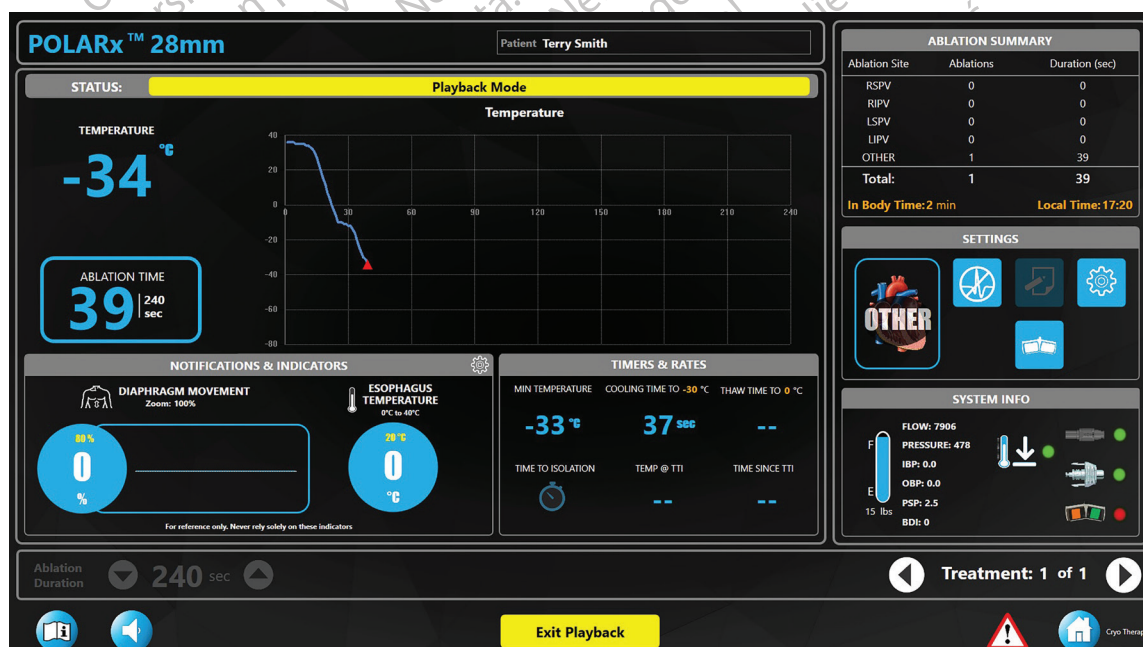
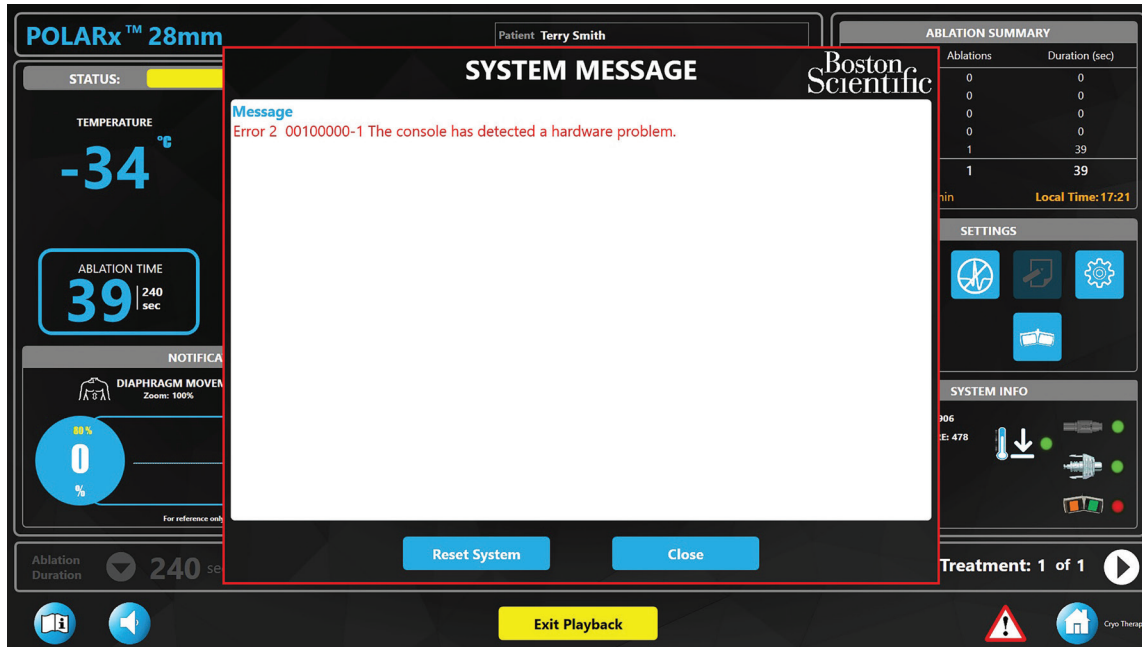

Figure 20. Playback Error
Figure 21. System Messages Window
- Press the red triangle at the bottom of the screen to open the system messages window (see Figure 20 and Figure 21).